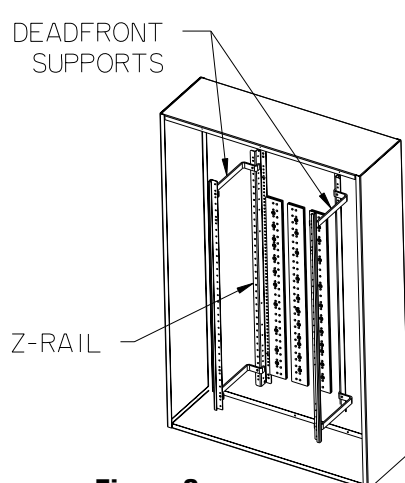
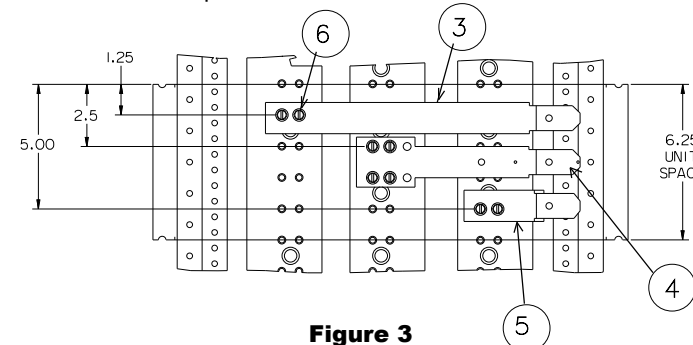

Figure 2
Figure 3
3. Reference fig. 2 - To mount a VL JG & LG Frame breaker, 6-1/4" of empty unit space is required. To locate the mounting position, measure from the top deadfront support to the top of the empty unit space filler on the deadfront. Transfer this dimension from the deadfront support along the Z-rail and mark. This will be the unit space as shown on Fig. 3. After marking the Z-rail, remove the deadfront.
5. Reference fig. 3 - Installing the strap assembly for right-feed applications (flip assembly for left-feed applications). Locate two 0.228" diameter holes on the A-Phase of the section bus, 1-1/4" down from the top of the 6-1/4" of unit space selected. Insert two 1/4-20 (item 6) thread-forming screws (see mounting hardware kit for proper length) through the two holes in the Long connector (item 3) and then into the 0.228" diameter holes in the A-phase bus and tighten. Locate four 0.228" diameter holes on the B-phase of the section bus, 2-1/2" down from the top of the 6-1/4" of unit space selected. Insert four 1/4-20 thread-forming screws (see mounting hardware kit for proper length) through the four holes in the medium connector (item 4) and then into the 0.228" diameter holes in the B-phase bus and tighten. Locate two 0.228" diameter holes on the C-phase of the section bus, 5.00" down. Insert two 1/4-20 thread-forming screws through the two holes in the short phase connector (item 5) and then into the 0.228" diameter holes in the section bus and tighten. Torque all screws to the values specified on the back of the deadfront.